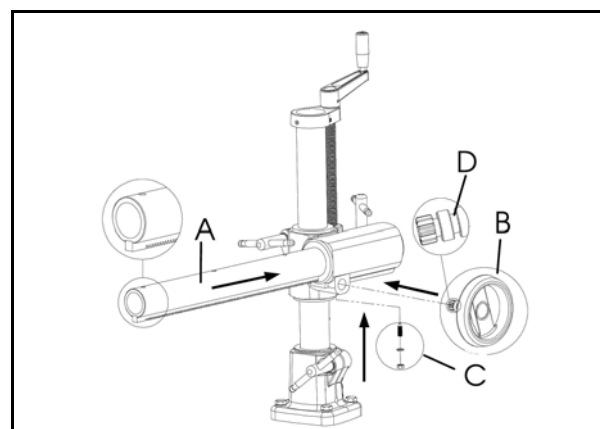

Fig. 7: Fitting the tripod
Step 4: Insert the arm (Pos. A, Fig. 7) in the guide, insert the handwheel (Pos. B, Fig. 7), insert the screw Pos.C in Pos. D (Fig. 7).